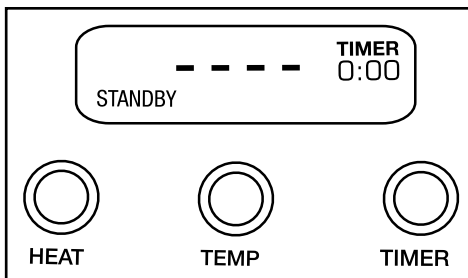

Figure 1
- 120 volt units are supplied with a molded 3-prong grounding-type plug and should be used in combination with a properly connected grounding-type outlet, as shown in Figure 1.
NOTE: The Induction Range requires induction-ready cookware. If the pan is not induction ready, it will not register on the induction range. The LCD display will show “-----” and “STANDBY” will flash (as seen in figure 1) when attempting to select a